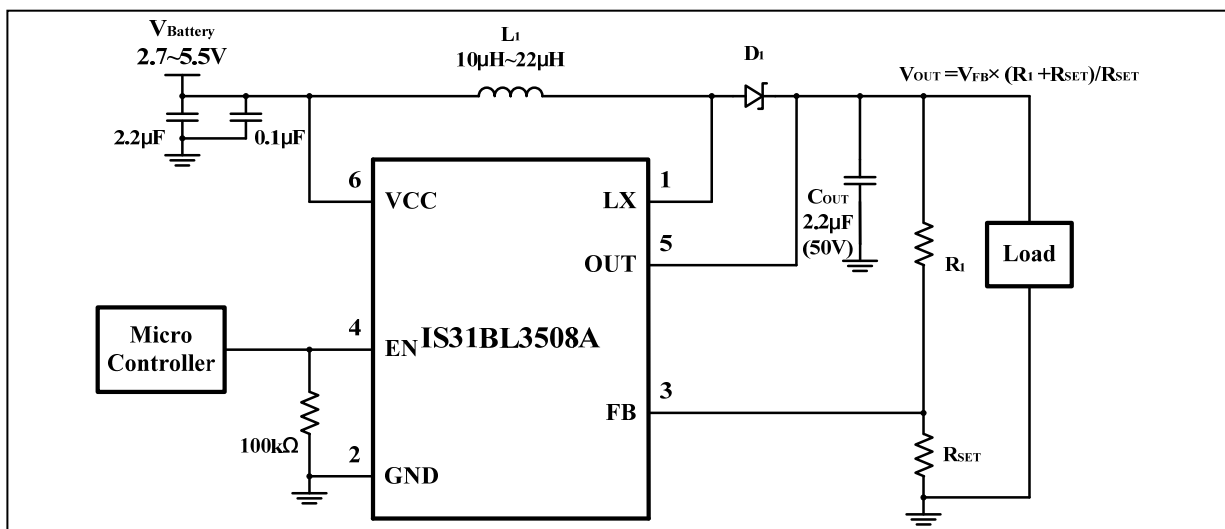

Figure 4 Constant Output Voltage For General Purpose Use
The IS31BL3508A can be configured to provide a constant output voltage (Figure 4). The output voltage level can be computed using the following Equation (5). The device internal V_{FB} is 0.3V (typ).